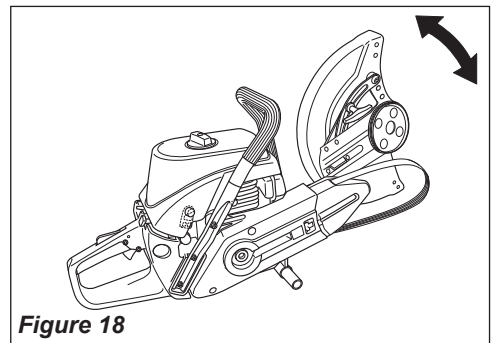

Figure 18
4. Remove the blade mount from the mounting surface and rotate the blade mount 180°, then remount to the right hand side of mounting surface. See Figure 18.